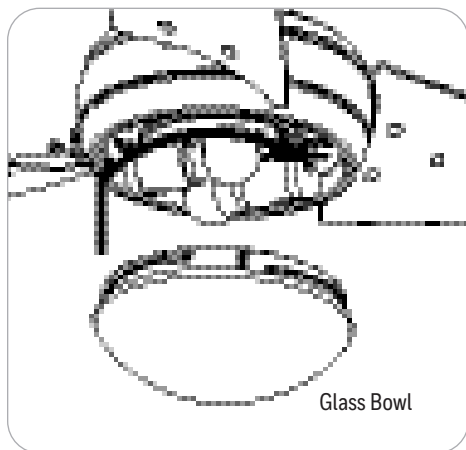

Figure 6.7
7. Attach the glass bowl to the light kit by twisting the glass bowl tightly in a clockwise direction until it is secure (Figure 6.7).